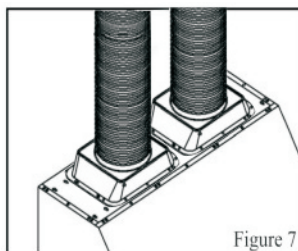

Figure 7
- 3.Use 8"round steel pipe(follow building codes in your area) to connect the exhaust on the hood to the duct-work above.Use silver tape or duct tape to make all joints secure and air tight.Refer to Figure 7.